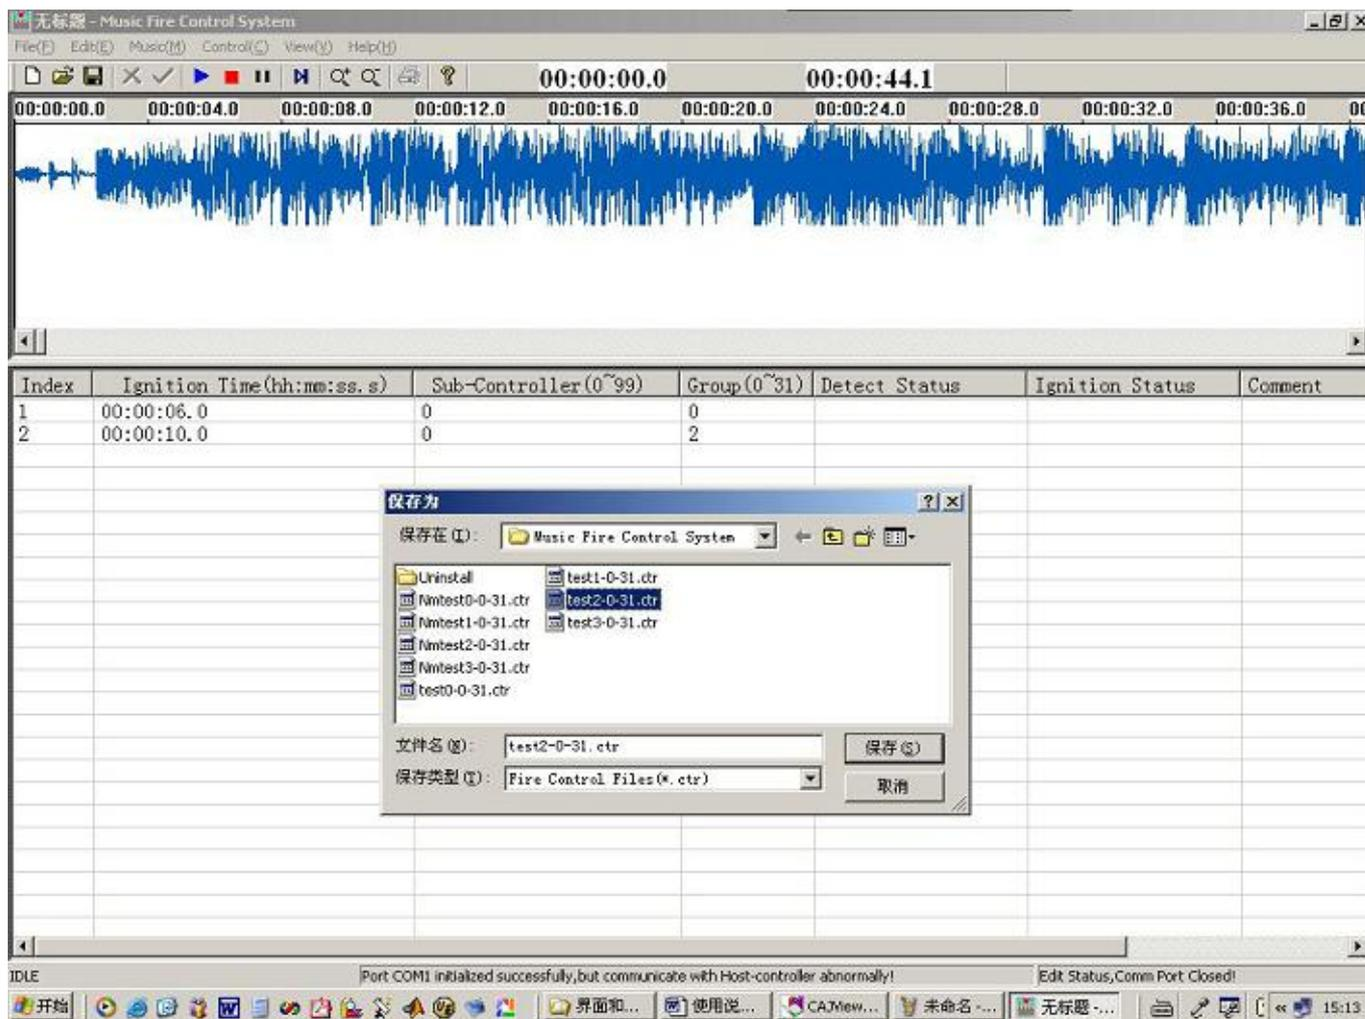

fig 26 Save control file
6. When all the control point was edited over, the user can save the strategy file. Click “File” → “Save” menu, the dialog as show in fig 26 will popup, input the file name, then click “OK”. The extend name of the file is ctr.